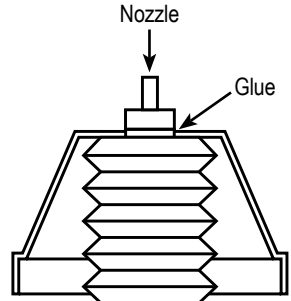

Figure 2
3. Glue the bellows cup to the bellows by sealing the juncture with a bead of white or cool-melt glue (Figure 2).